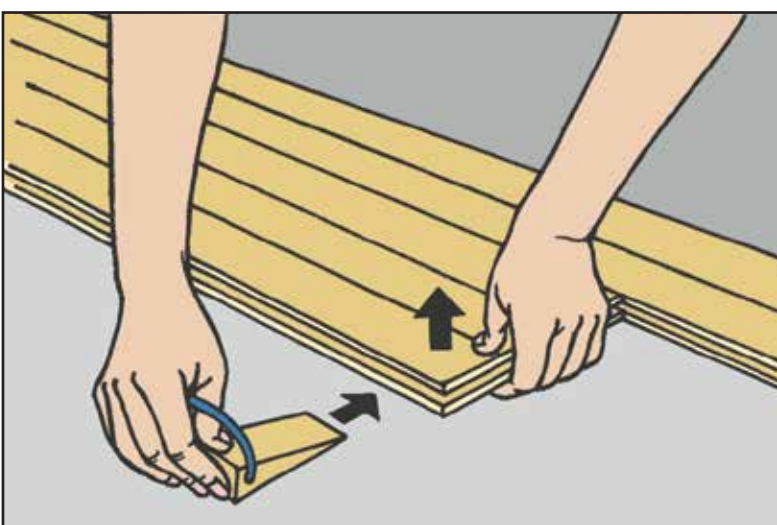

Fig. 7
9. Use distance pieces or wedges (Fig. 7).